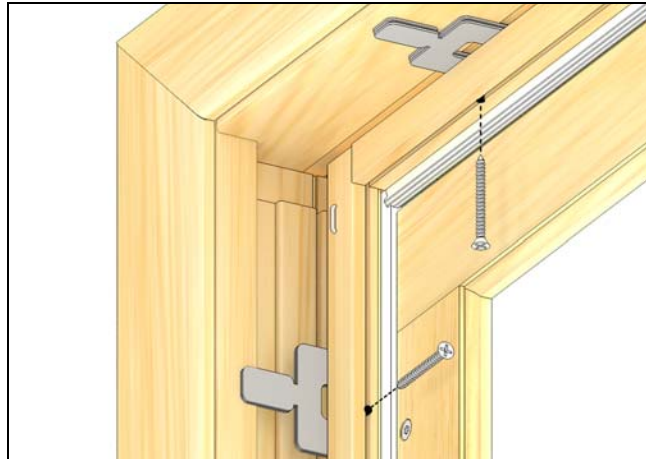

Figure 21
3. On picture and transom units, fasten unit in opening by inserting the #8 x 3" T20 Torx pan head screws (provided) into pre-drilled screw holes and tighten with a power driver/drill. Be sure shims are placed near every screw location to avoid bowing of jambs. Do not over-tighten screws. See Figure 21. Check frame for